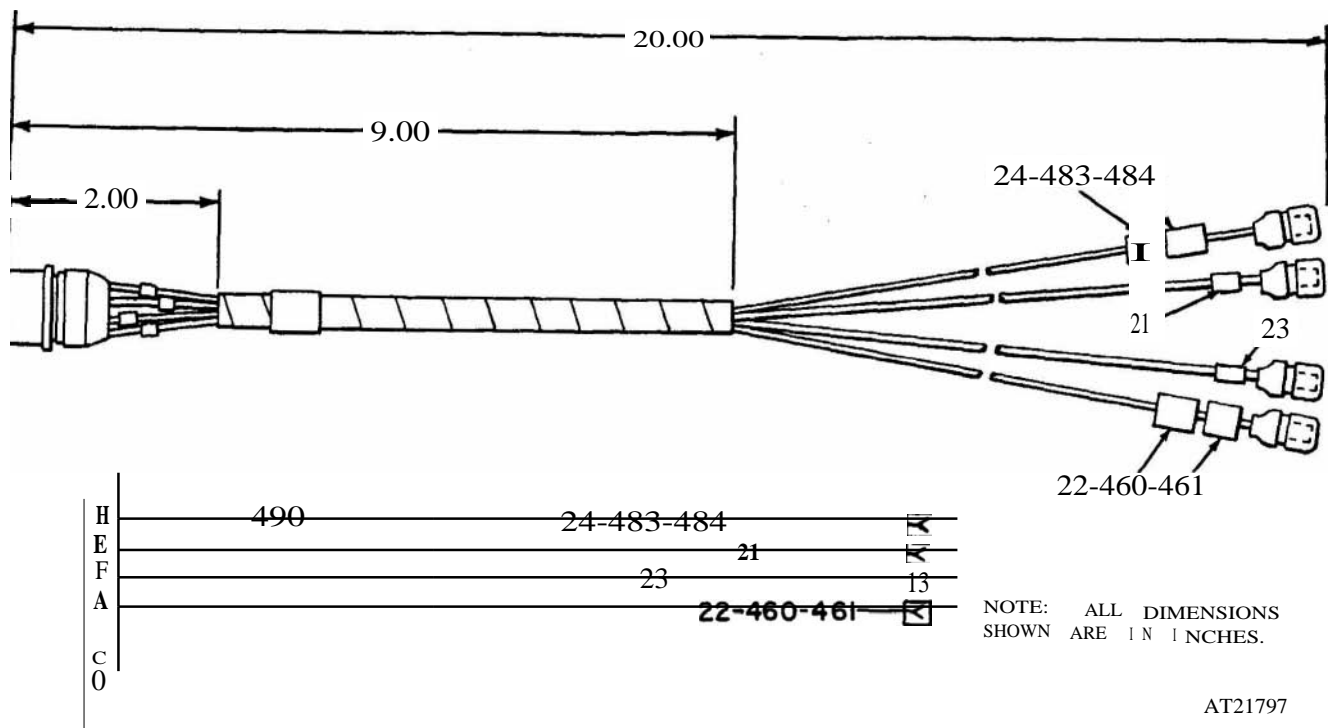

Figure 2-144. Carrier tail light harness.
- (3) Remove access hole cover by removing four screws.
- (4) Remove receptacle and gasket by removing four screws and nuts.
- (5) Reach through access hole and disconnect four light connections.
- (6) Remove harness from carrier.
b. Repair. Repairs shall be made in accordance with TB ORD 650 (fig 2-144).